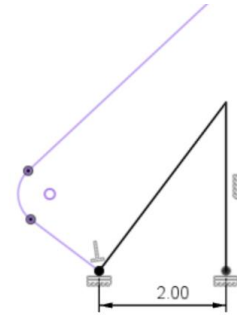

Figure 6. Create saw tooth profile
6. Create a custom saw tooth sketch profile. The dimensions provided in the profile pictured in Figure 6 may be used.